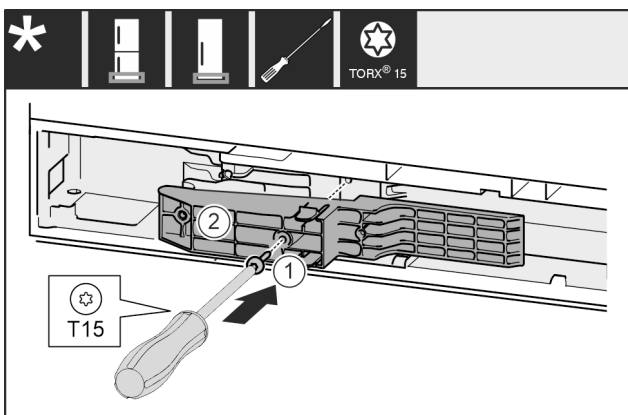

Fig. 48 *
- ▶ Insert adapter Fig. 48 (1) in the recess on the handle side.*
- ▶ Tighten screw Fig. 48 (2) with screwdriver.*